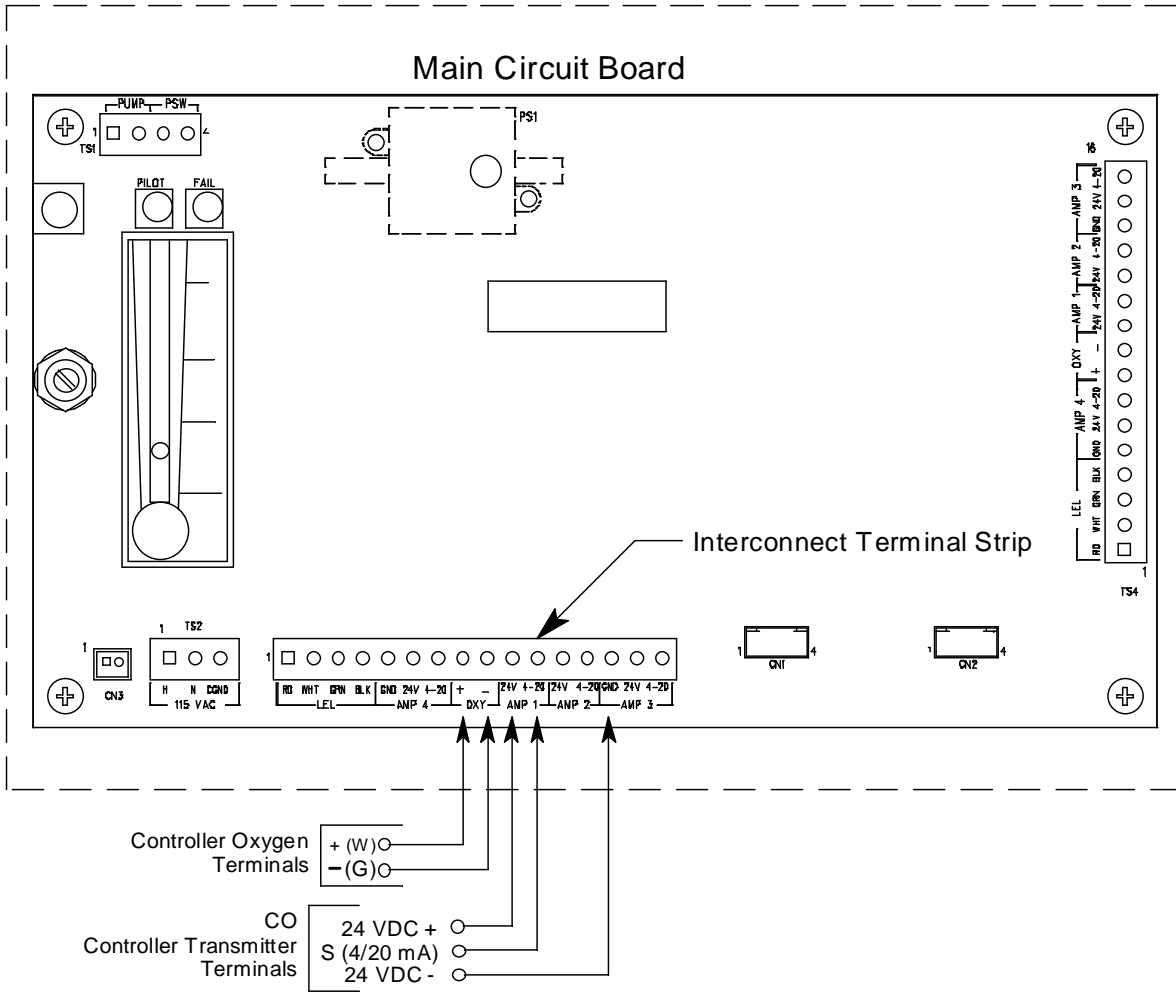

Figure 5: External (Field) Wiring, Sample Draw Detector
5. Connect the cable to the sample draw detector's interconnect terminal strip as shown in Figure 5.